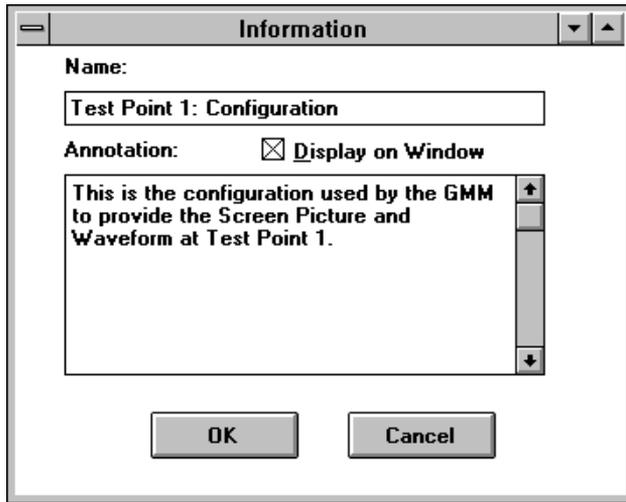

Figure 25. Information Dialog Box
4. If you want to change the record name and add notes, click Change from the File Window. An Information dialog box (Figure 25) appears. Change the record name and add notes while this dialog box is open.